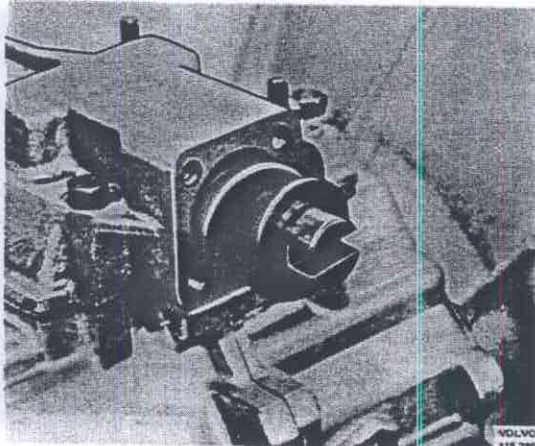
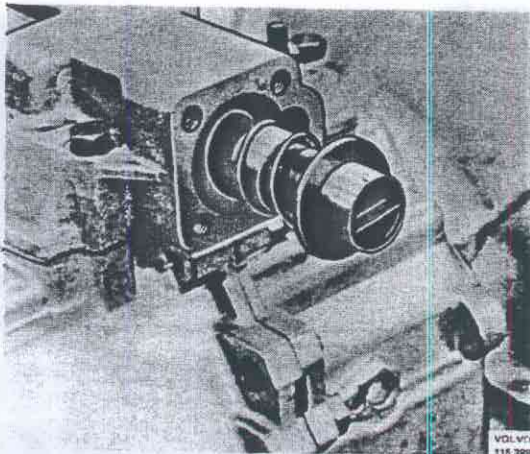

Fig. 43-126. Small spring with spacer rings
Fig. 43-127. Large spring with washer
34. Fit on the selector shaft housing. Fit washers and bolts. Grease the selector shaft and place it in the housing. Fit the lock pin and the lock ring in the housing. Fit the spacer ring, the small spring, washer, spacer ring, Fig. 43-126, the large spring, washer, Fig. 43-127, and the lock ring. Place the lug in position and drive in the tubular pin on the shaft.